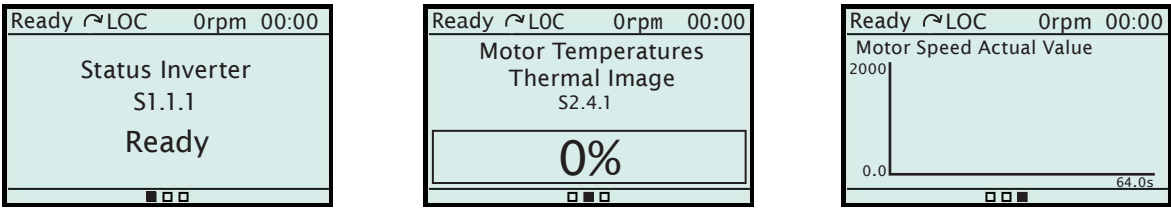

Figure 4.12: View in (a) text, (b) bar and (c) graphic
- **Full screen:** it covers an entire main screen and allows viewing reading variables in the format **text**, **bar** or **graphic**. Figure 4.12 on page 70 shows an example with the three formats.